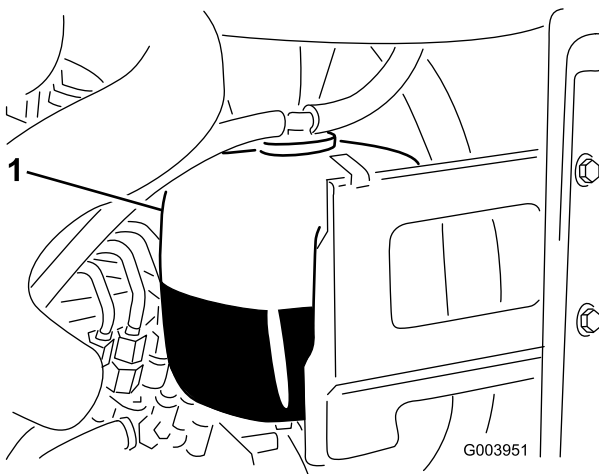

Figure 33
1. Check the level of coolant in the expansion tank (Figure 33).